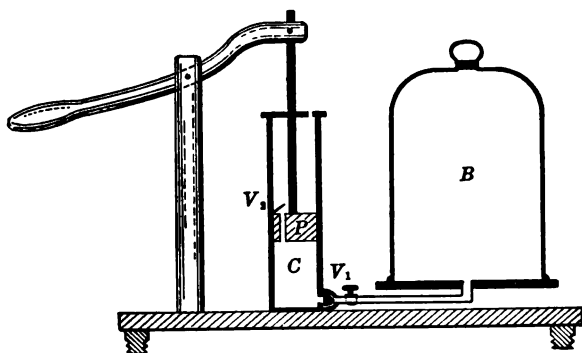

FIG. 47. — Exhaust air pump.
58. The Air Pump. The ordinary exhaust pump, of which a common type is shown in Fig. 47, is used to pump air from vessels, or to produce a partial vacuum. When the pump is in action the piston P moves up and down in